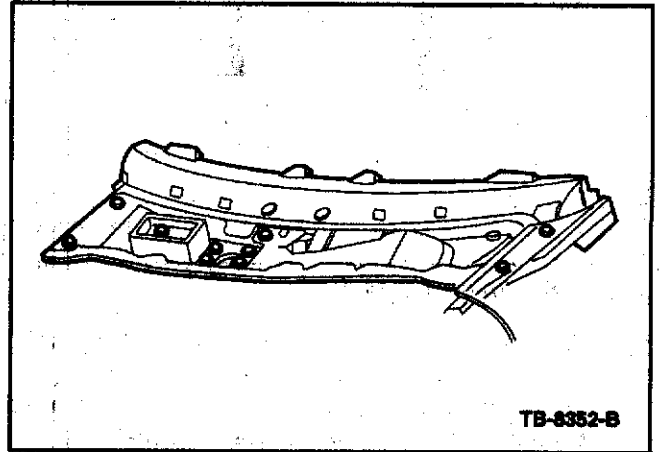

Figure 6 - Article 06-14-10
7. Remove the lower cowl panel assembly. (Figure 6)
- a. Remove the ten (10) bolts.